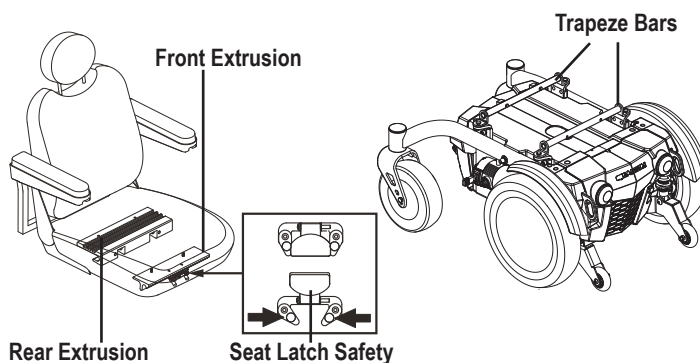

Figure 6. Universal Mounting System and Contour Seat
Your power chair may require some assembly either before initial use or after transportation. It may also require disassembly to make some comfort adjustments. **Figure 6** details those parts of the power chair that are designed to be disassembled and assembled by an end user or by a qualified caregiver before using the product or making comfort adjustments.
1. Tilt the seat back and slide the rear extrusion onto the rear trapeze bar. See **figure 6**.